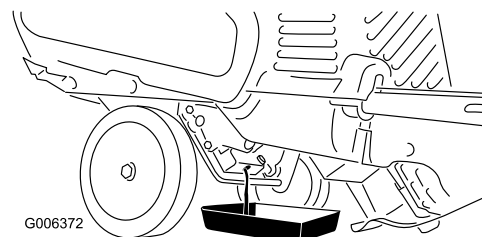

Figure 28
- Place an oil drain pan under the oil drain plug, remove the oil drain plug, and tip the machine backward and drain the used oil in the oil drain pan (Figure 28).